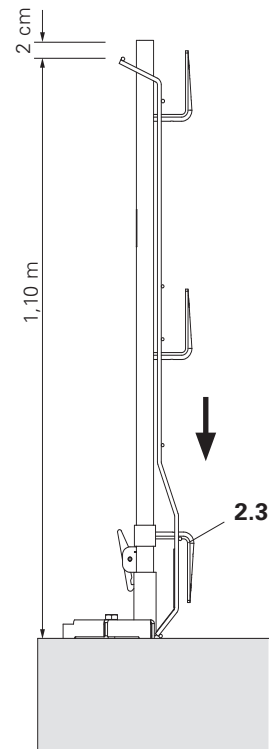

Fig. A2.03c
3. Secure against lifting with the retainer. (Fig. A2.03c)